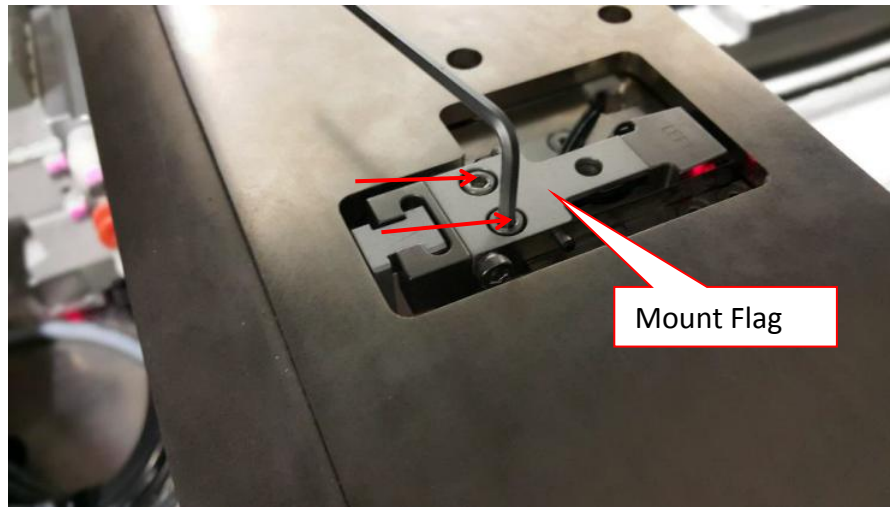

Figure 6 Mount Flag Removal
7. Remove 2 x Screws (M3 x 4) & Mount Flag as shown in Figure 6.